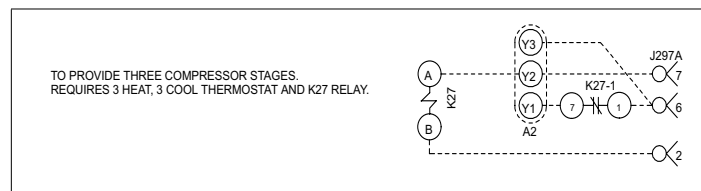

Figure 27. Third-Stage Cool (Parameter 111) Wiring
- **Option 3. Three Cooling Stages:** Cooling operation is shown in “Table 8. K-Series Thermostat Mode Operation (Three Cooling Stages Parameter 111)” on page 25; this option requires the use of a three-stage cool thermostat and a K27 relay. See wiring pictorial in “Figure 27. Third-Stage Cool (Parameter 111) Wiring” on page 24 and C section control wiring diagram.